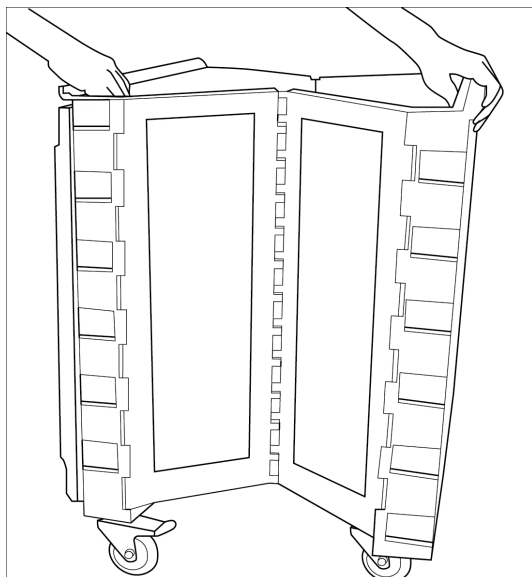

Figure 3-9. Expanding the ballot box
3. Expand the ballot box by pulling the front and back panels away from each other until the ballot box is fully extended (Figure 3-9).